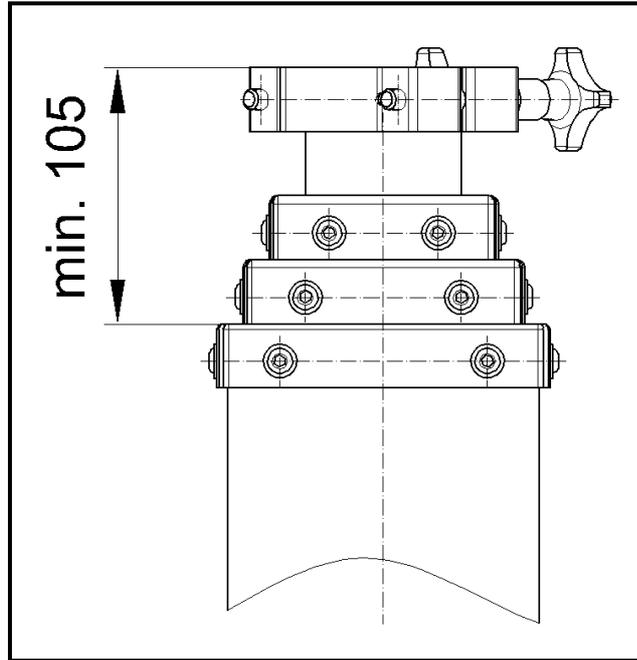

figure 2
- a) With the motor drive dismantled, extend the mast using the winch handle, to position the smallest telescopic stage at a distance of at least 105 mm to the head frame of the mast base stage (see fig. 2).
After adjusting the drive, extend and retract the mast several times to control the switching distances (see fig. 2 and 3.)